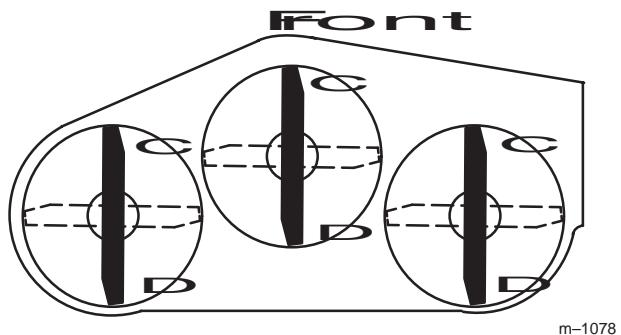
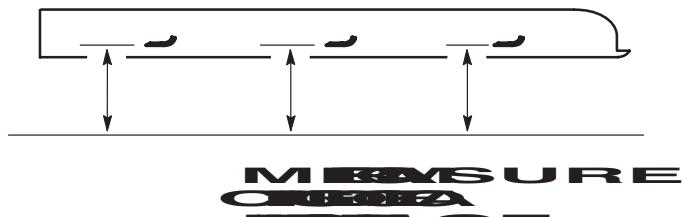

Figure 41
Figure 42
4. Position one blade front-to-rear (Fig. 41). Measure at **C** and **D** locations (Fig. 41) from a level surface to the cutting edge of the blade tips (Fig. 42).